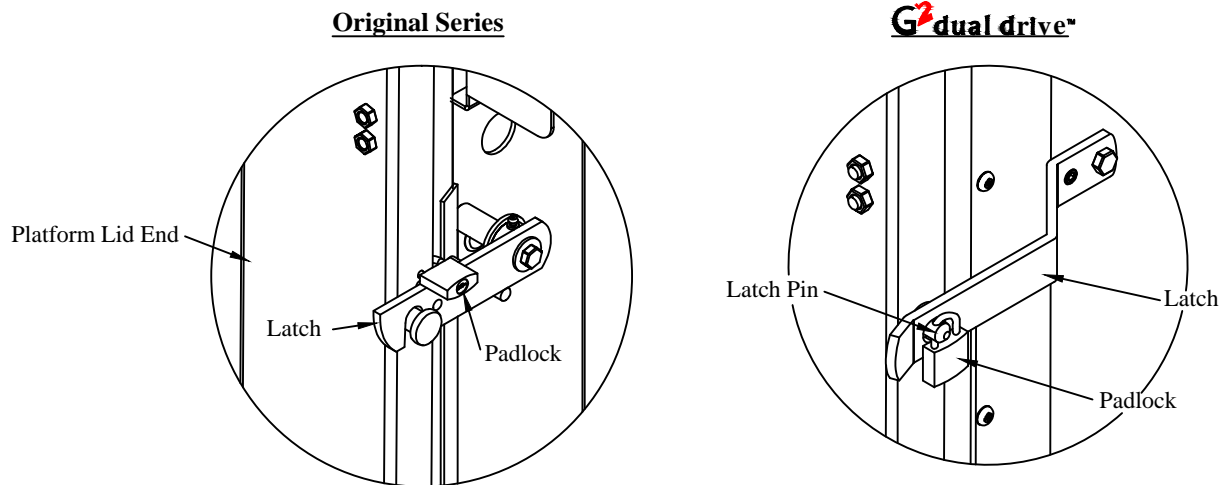

Figure 19: Padlock location.
9. **Lock** the padlock through the hole in the platform or latch pin (Figure 19).